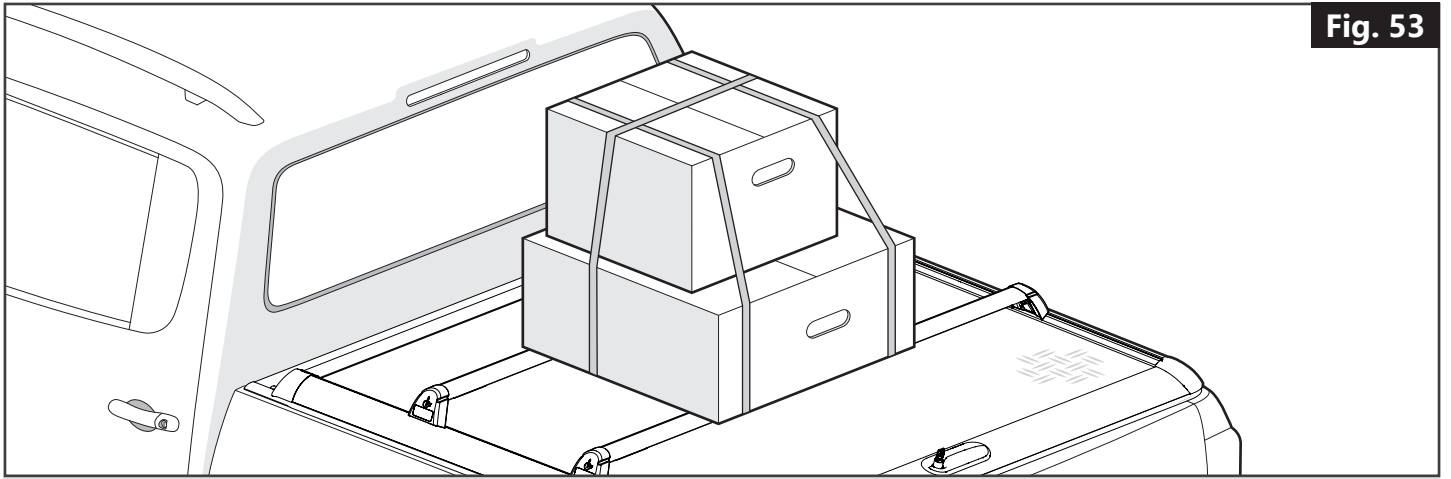

Fig. 53
- Combined load capacity of 75 Kg (including bars) (*Fig. 53*)